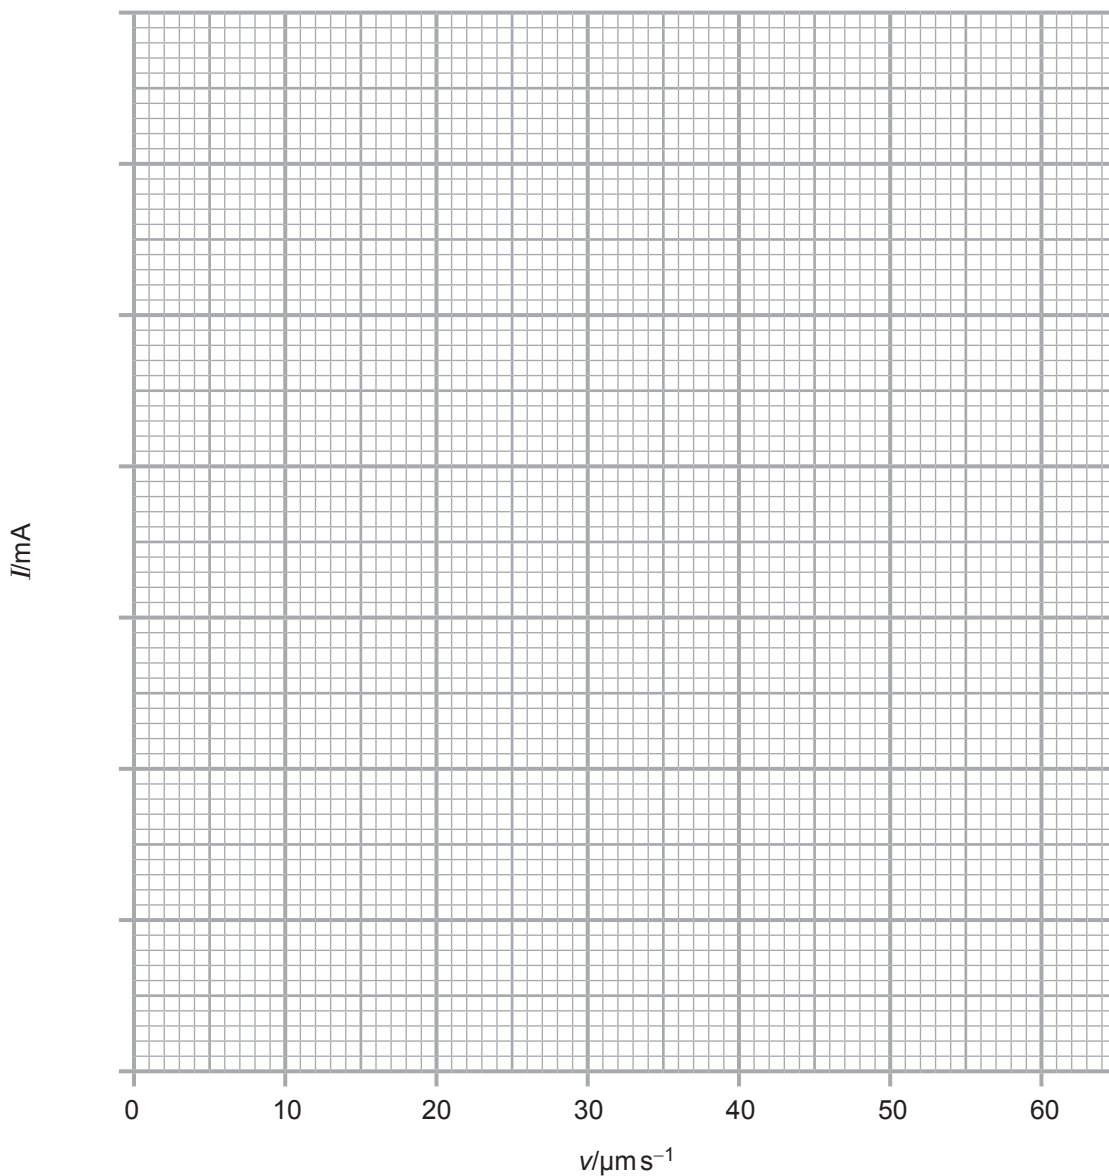

Fig. 5.1
On the grid of **Fig. 5.1** draw a graph of I (y-axis) against v (x-axis).
- (c) (i) Determine the gradient of the graph drawn in **Fig. 5.1** and state the unit in which it is measured.
The gradient, m , of the graph in **Fig. 5.1** is related to the number of free electrons, n , in a cubic metre of copper by **Equation 5.2**,